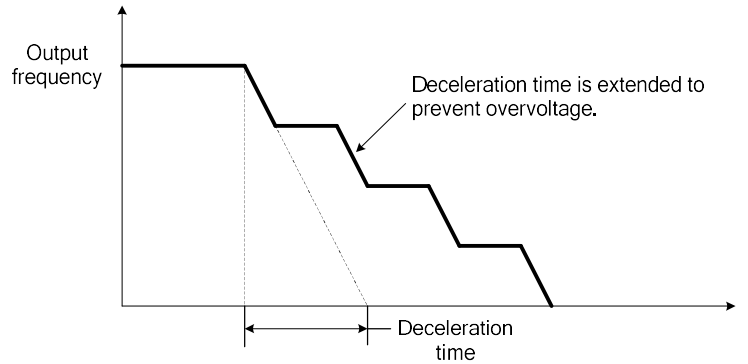

Figure 4.3.92 Stall prevention during deceleration
- Refer to Figure 4.3.92 stall prevention during deceleration